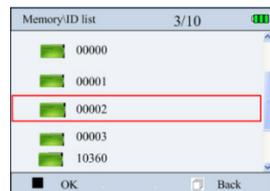

Figure 6-3.
1. On data management screen, select “Delete” with Navigation Key, then press “**■** OK” key to enter into the ID list screen, as shown in figure 6-3.